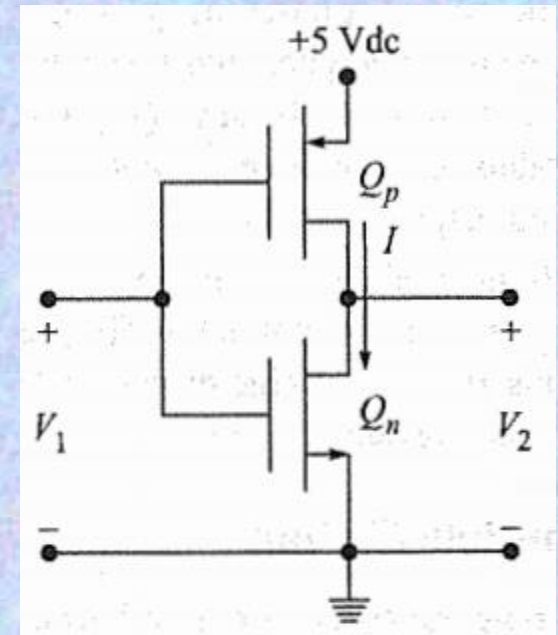

Fig 1.9. A CMOS inverter
- A CMOS inverter is shown in Fig. 1.9. Ideally, the characteristics of the n channel are closely matched with the p channel. This circuit is the basis for the 74C00 and 74HC00 families. Here's how it works: